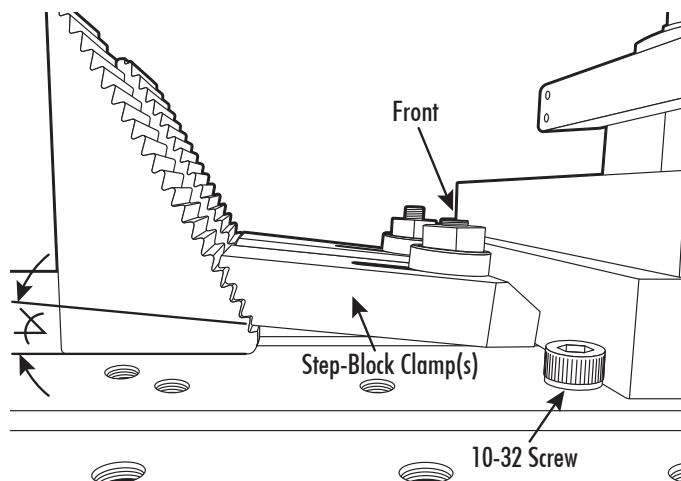

FIGURE 31—Side view.
- C. If you are using one of our tooling plates, you can also insert (2) 10-32 screws into the tooling plate to locate against the backside of the fixed jaw (see Figures 31 and 32).